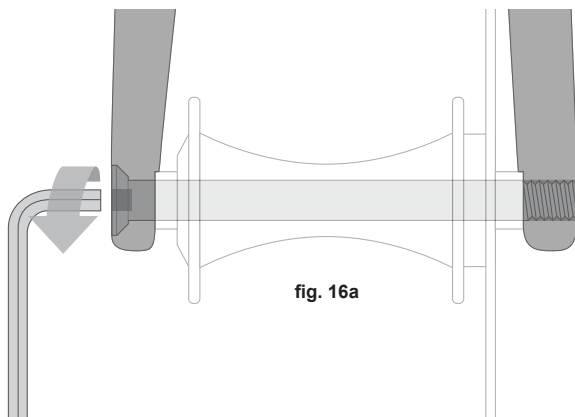
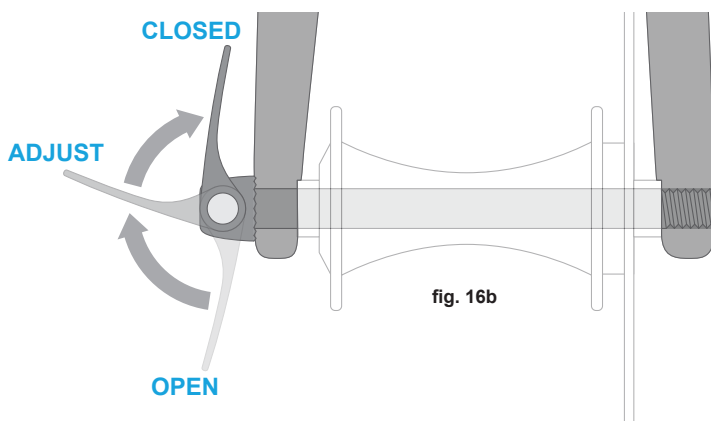

fig. 16a
fig. 16b
a. Adjusting the thru-axle mechanism (fig. 16a & 16b)
The thru-axle is inserted through the unthreaded hole in the frame or fork's dropout, through the wheel hub, and is threaded directly into the opposing dropout by tightening the thru-axle. Common installation methods may use an Allen hex key (**fig. 16a**) or a cam lever (**fig. 16b**). Please refer to the manufacturer's instructions for specific information about your thru-axle's operation, including correct torque specifications or lever adjustment information.